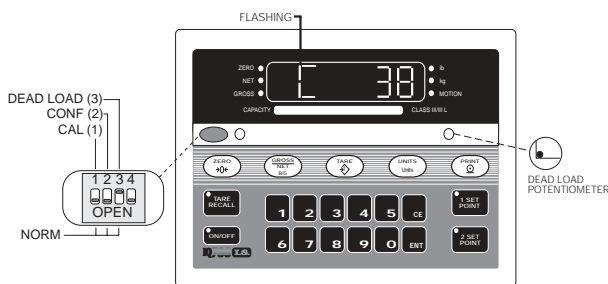

Figure 4-1. Close Switch 3
2. Close SW1-3 (dead load). The leftmost display digit should be flashing *C* as shown in Figure 4-1.